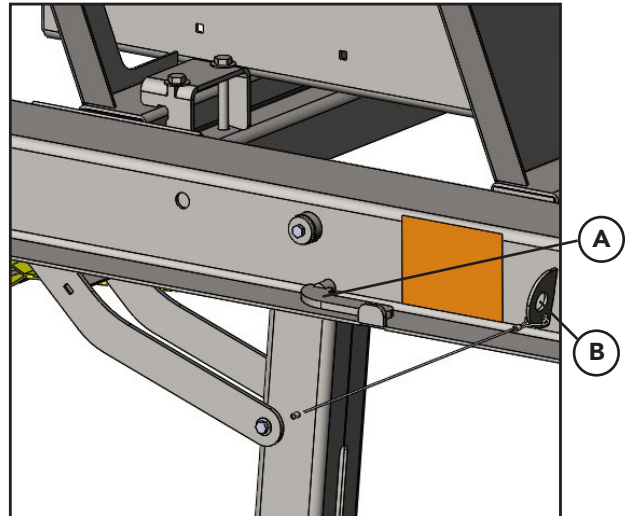

Figure 3 - Leg Support Lock Pin
5. Figure 3 - Remove front leg locking pins (A). Store front leg locking pins in hole (B).